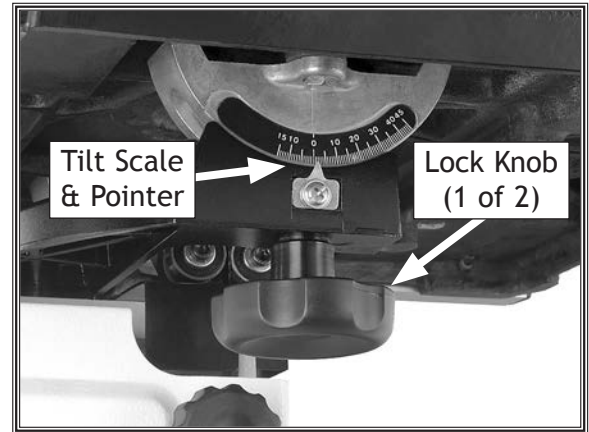

Figure 18. Table tilt controls.
4. Loosen both trunnion lock knobs (see **Figure 18**) to allow the table to tilt.
7. Loosen the screw on the tilt scale pointer shown in **Figure 18**, then align the pointer with the "0" on the scale before re-tightening the screw.